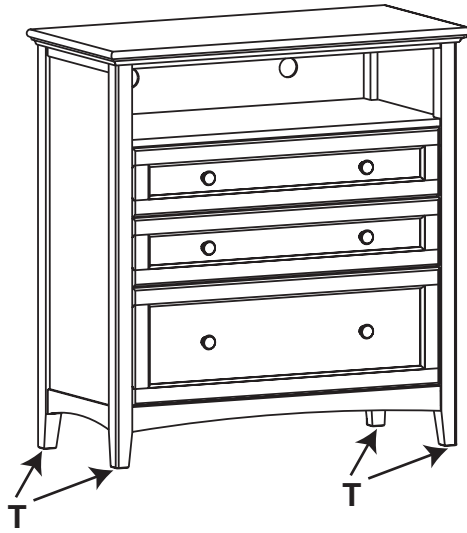

Fig. 1
1. Place the unit at its final destination. Rotate the Small Adjustable Glides (T) on the bottoms of the legs until the unit is level. See Figure 1.